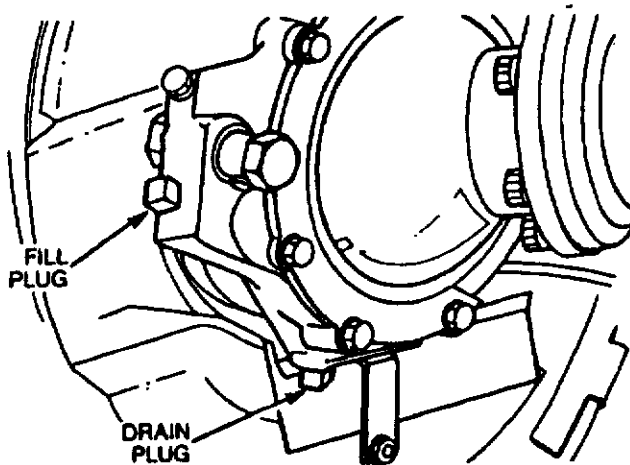

Figure 3-11 Swivel Pin Housing Drain and Fill Plugs
**337.** The location of the drain plug and the fill plug is shown in Fig 3-11. To drain the swivel pin housing, remove both the fill and drain plugs and drain the oil into a suitable receptacle. Fill the swivel pin housing with the recommended lubricant to the bottom of the fill hole.